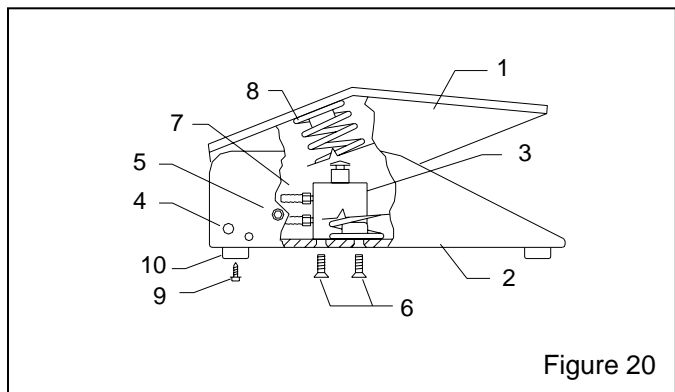

Figure 20
9.4 Foot Pedal Assembly, Figure 20